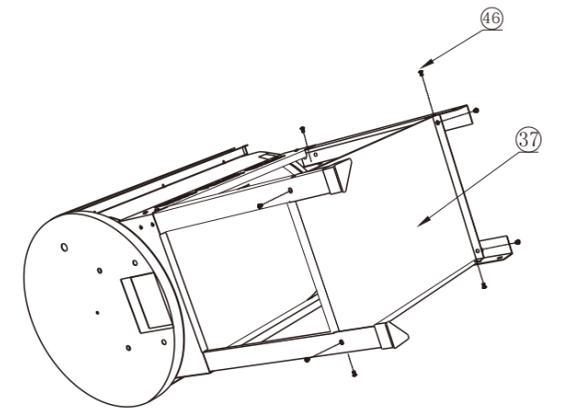

Figure 2
- 3.) Attaching bottom plate(37) on 4pcs legs by using 1/4-20*12mm Bolts(46), keep it steady. As shown in Figure 2.